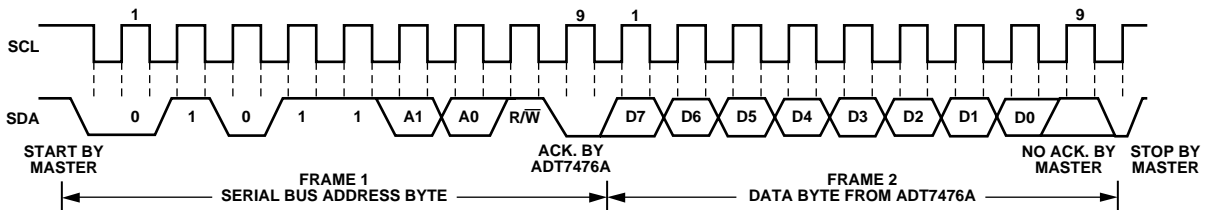

Figure 20. Reading Data from a Previously Selected Register
A read operation is then performed consisting of the serial bus address;  $R/\overline{W}$  bit set to 1, followed by the data byte read from the data register (see Figure 20.)
2. If the address pointer register is already known to be at the desired address, data can be read from the corresponding data register without first writing to the address pointer register (see Figure 20).